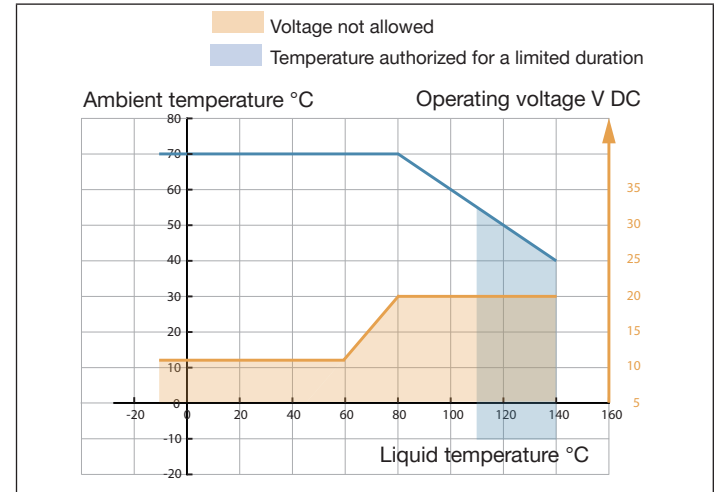

Fig. 15: Minimum supply voltage depending on the ambient temperature and the liquid temperature
- Observe minimum supply voltage, see Fig. 15.